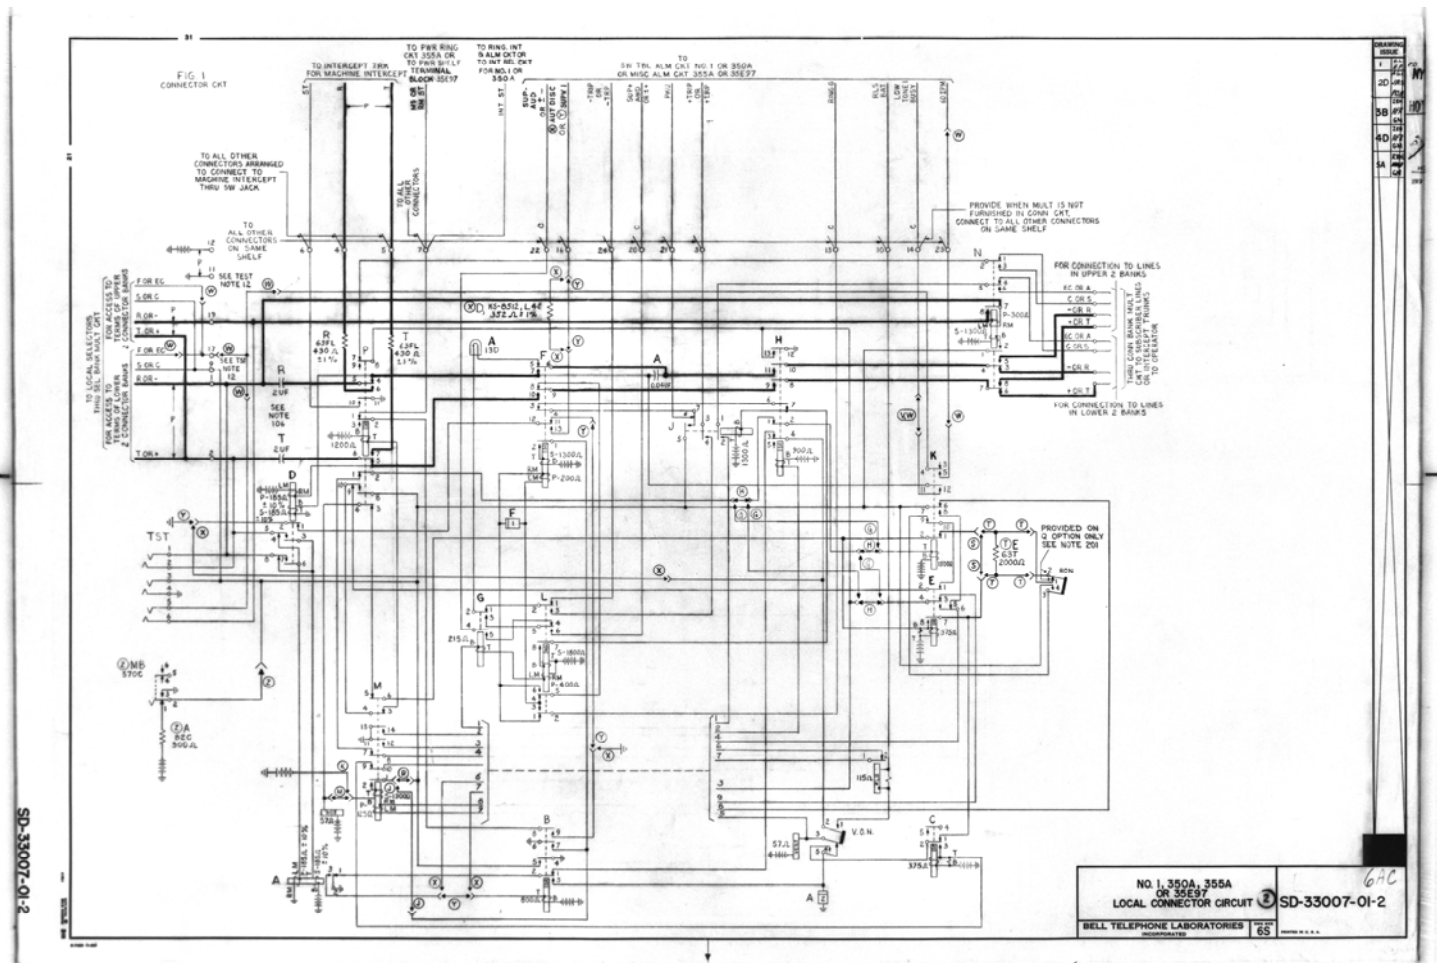
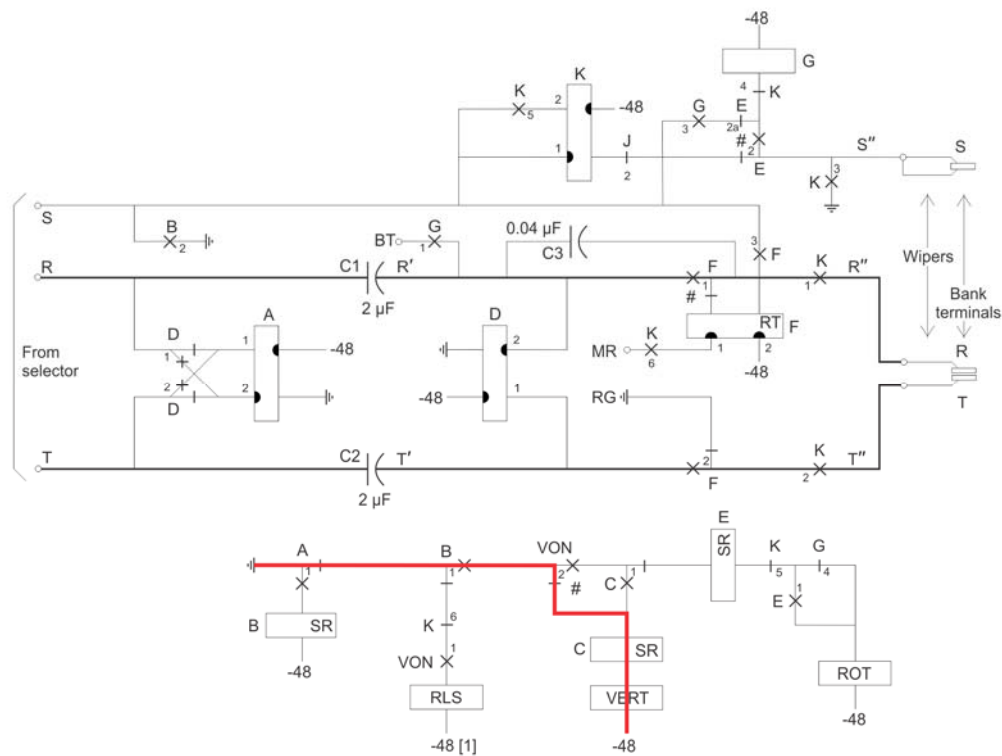

Figure 1. Step-by-step connector—attached contact circuit schematic
Figure 5. Typical step-by-step connector—detached contact form
To help put this story in perspective, Figure 1 is the main circuit schematic sheet of the actual SD drawing for a certain type of switch used in the step-by-step switching system. It is a “connector”—the last switch in a connection “train”.
In Figure 5 we see the circuit of a hypothetical step-by-step connector switch (a slightly different kind than the one in Figure 1), drawn in detached contact form. This is not from an SD drawing, but from a drawing by this author to illustrate the operation of this switch in another article. The red highlight is added for its use here.
We can see how much easier it would be on this style of drawing, compared to what we see in Figure 1, to see just what, for example,
controls the operation of the C relay (I have actually highlighted that path in red on Figure 5).
In all fairness to the comparison with Figure 1:
- This is actually for a connector switch that is not quite as complicated as the one in Figure 1 (and has a few less relays).
- Not included on this “tutorial” drawing are many “fussy” notations, included on the drawing we saw as Figure 1, covering such things as optional alternative circuitry (and which an actual SD- drawing in detached-contact form would still have).